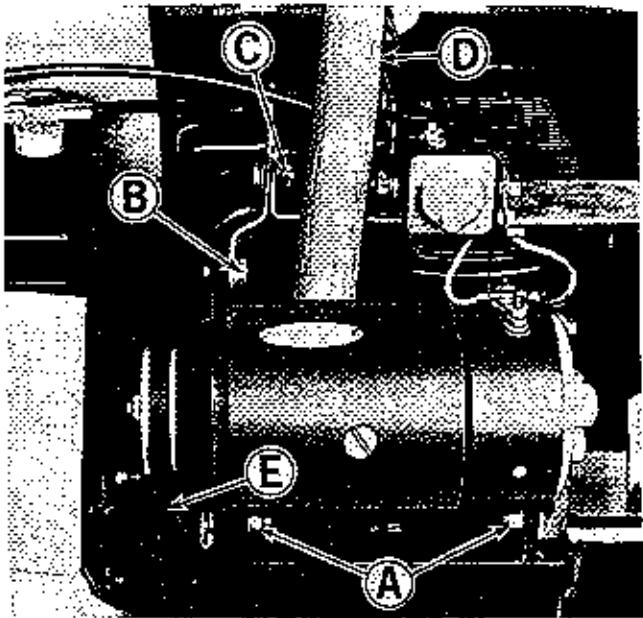

Figure 17. Generator located on right side of engine.
See figure 17. If the starter turns, but the engine does not rotate, the starter generator belt may need tightening. Proceed as follows:
2. See figure 17. Loosen slightly the two nuts (A) cap screw (B) and nut (C). Use a pry bar (D) similar to the one shown between the generator and engine block to apply pressure to the generator and tighten the belt. The belt should be tight enough so thumb pressure at (E) will deflect it about $1/4''$.
3. While holding the pry bar to maintain tension on the belt, tighten the mounting bracket at (C) securely.
4. Actuate the starter to make sure the engine will rotate. If it does not, loosen the nut at (C) and apply more tension to the belt.
5. Tighten the two nuts at (A) and the cap screw (B) securely.